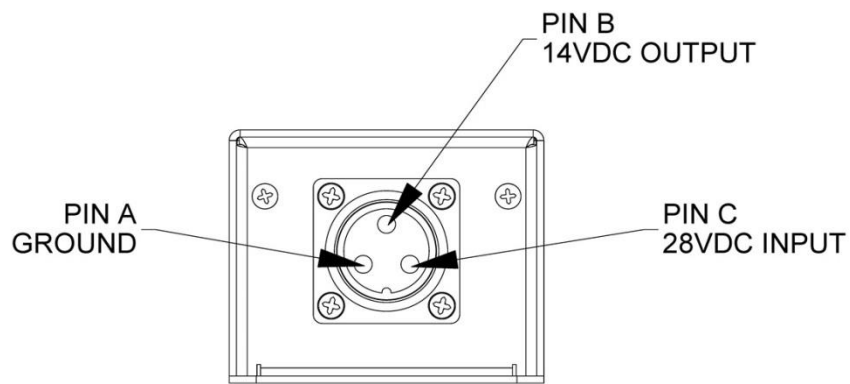

Figure 4: Pin Designation
- a. Refer to Figure 4 for Power Converter pin designation.